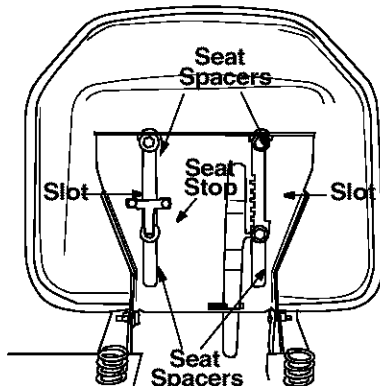

Figure 6
- Slide seat in until front seat spacer engages the seat stop. See Figure 6. To adjust the seat refer to the adjustment section in this manual.